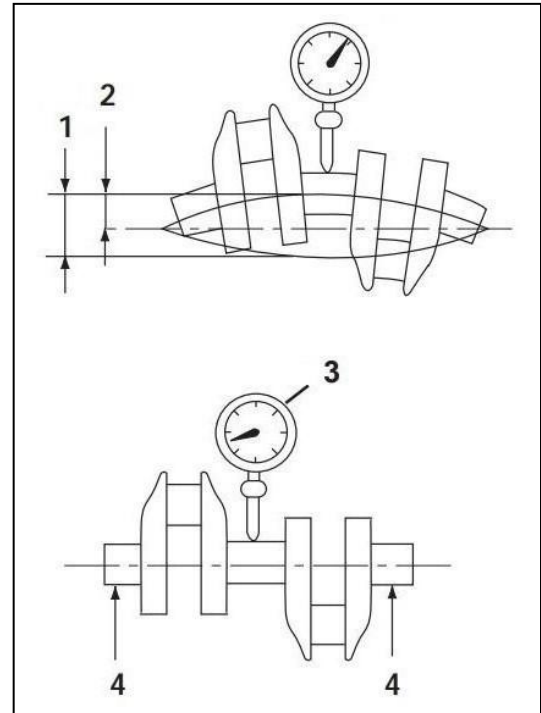

Figure 122
1. Place the crankshaft endjournals (Figure 122, 4) on V-blocks.
2. Place a dial indicator (Figure 122, 3) on a center main bearing surface.